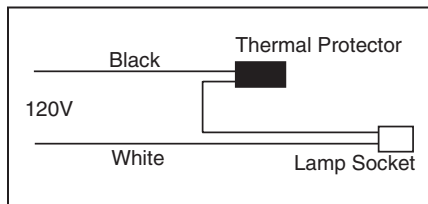

Figure 10
**Non-Metallic (NM) Cable.** Remove appropriate D-shaped NM cable knock-out(s). Insert NM cable through NM cable trap and make a 90° L-shaped bend in cable as shown (Fig. 10).